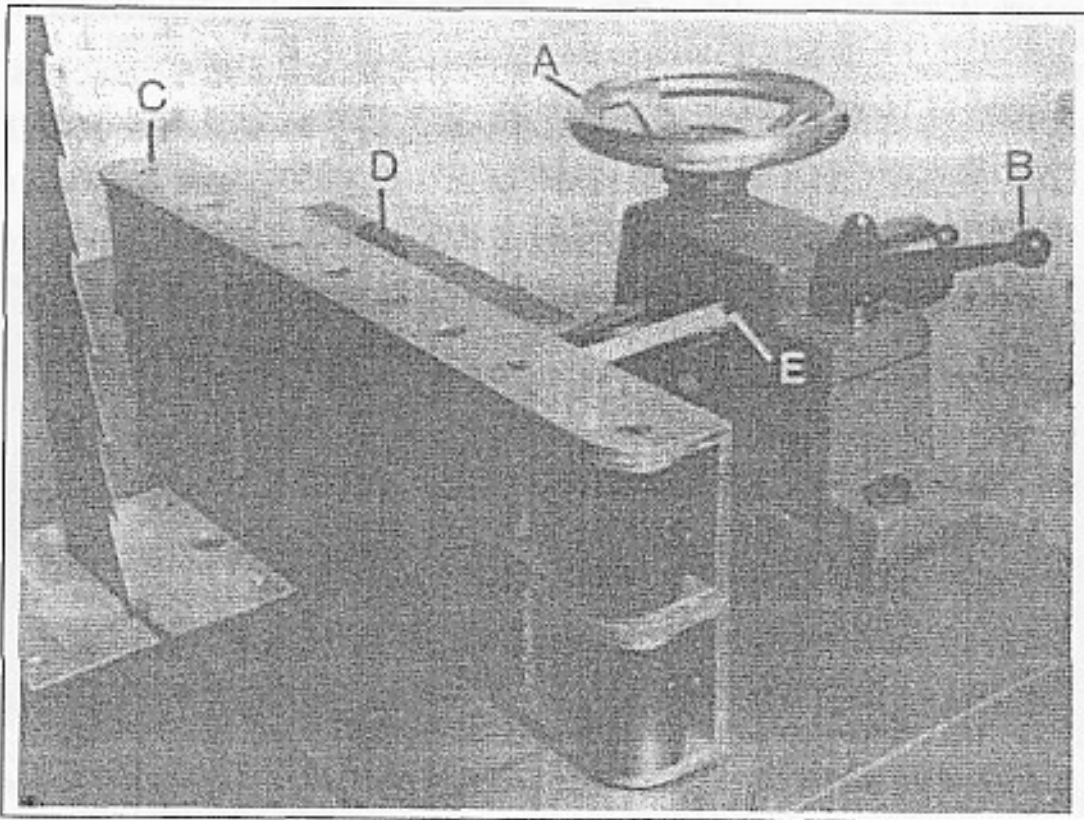
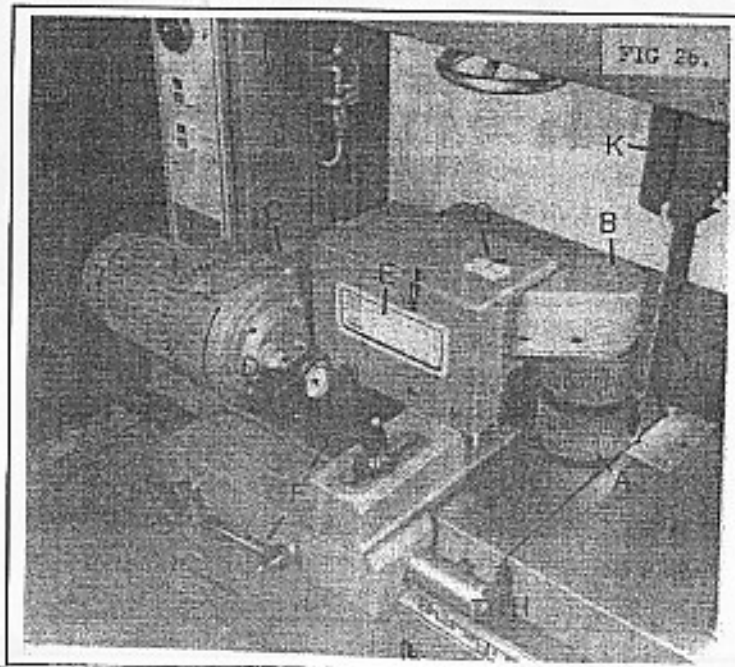

Fig 25
Fig 26
This unit has a blade to fence capacity of 230mm (9") and is adjusted by hand wheel 'A' (FIG 25) then locked in position by lock 'B' (FIG 25).
The roller bed is split by slackening 2 handles 'D' (FIG 25) and by removing top section 'C' (FIG 25), this allows top guide to be as close as practical to the stock when ripping small sections for increased accuracy.
The unit has a scale and adjustable pointer 'E' (FIG 25) for setting fence to desired stock size.
1. The variable drive unit 'C' (FIG 26) gives feed speeds ranging from 5-25 m/min. (15-80 ft/min) and speed adjustment is by handwheel 'D' (FIG 26), a dial is fitted to indicate feed speed.
2. Feed rollers 'A' (FIG 26) are mounted on a swing arm 'B' (FIG 26) to cater for up to 100mm (4") variance in stock width this affords for example:-
The feeder to the fence capacity is 385mm (15") and slides on bar 'H' (FIG 26) in axis 'X' then locked in desired position by handles 'F' (FIG 26).
CHECK SWINGING ARM WILL NOT FOUL BLADE 'J' (FIG. 26) OR TOP SAW GUARD 'K' (FIG. 25) AFTER RE-POSITIONING FEED UNIT BEFORE OPERATING MACHINE.
4. A plate 'E' (FIG. 26) is fitted to feeder as a guide to feed speeds relative to stock depth to be sawn, however the feed speed selected should take into consideration the type of stock to be sawn and condition of the blade.
5. A grease point 'G' (FIG. 26) is provided, this point should be greased on a weekly basis depending on usage of machine.